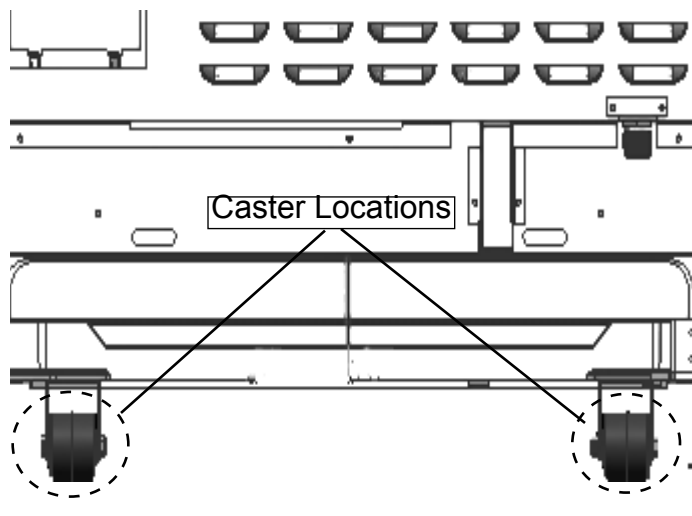

Figure 27: Castor Locations
1. Each range has a pair of casters adjacent to the rear legs (see *Figure 27*). The casters make moving the range easier by slightly lifting the front and allowing the casters to glide the range back towards its installed position.
2. The range has (4) leveling legs that are threaded into the cast aluminum base structure. The range is leveled by rotating the legs using an 12" (305mm) adjustable wrench on the flat sides of each foot.